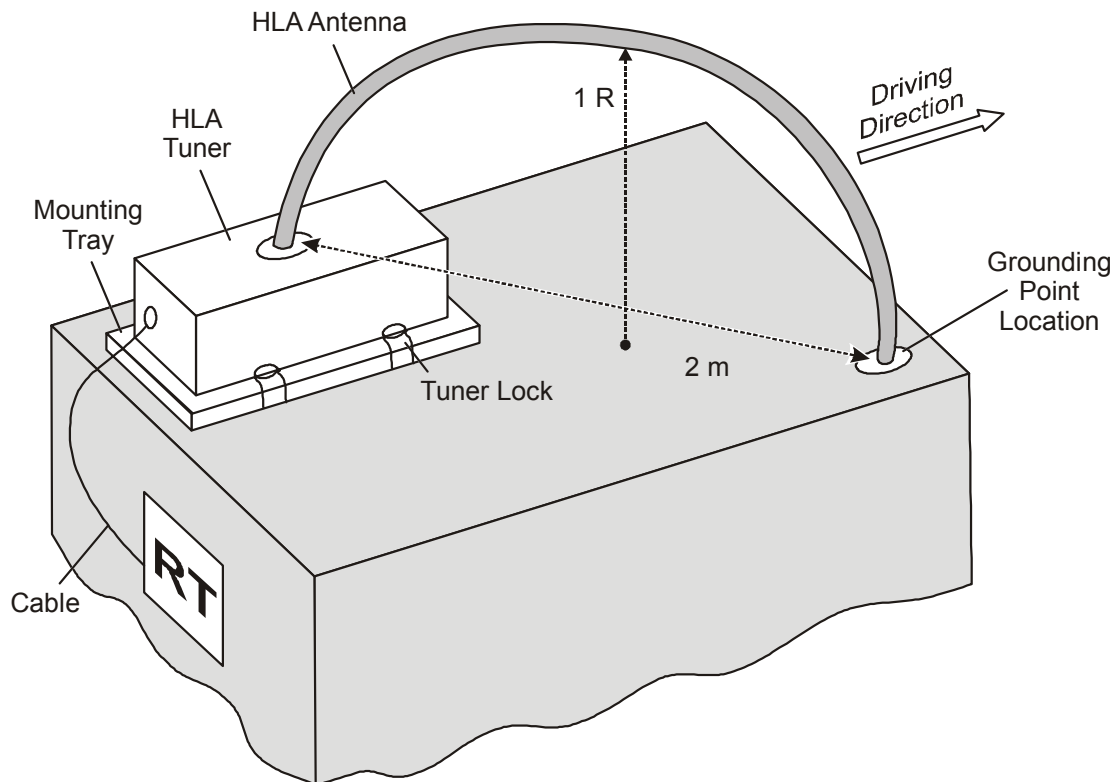

Figure 2-1. HLA R-1M Antenna Installation
(See Figure 2-1)
- The antenna requires at least two meters of space on the vehicle roof (see Figure 2-1), and thus the tuner location requires planning. Most of the time, the antenna is installed diagonally on the roof.
- b. Verify the lock tuner locks are facing towards the center of the vehicle (see Figure 2-1).
- e. Measure two meters diagonally from mounting tray center and mark the grounding point of the antenna (see Figure 2-1).
Place the HLA Tuner on the mounting tray with the HLA tuner connectors facing outside of the vehicle (see Figure 2-1)